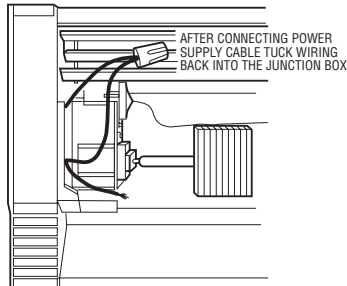

Figure 8. Wiring Through Junction Box Opening
4. If the power supply is to feed heaters at the junction box that is adjacent to another heater, it is easier for the power supply connections to be made prior to the installation of the heater(s) to the wall. If this is not possible, connections may be made through the opening in the junction boxes when the front cover(s) is removed. See Figure 8.